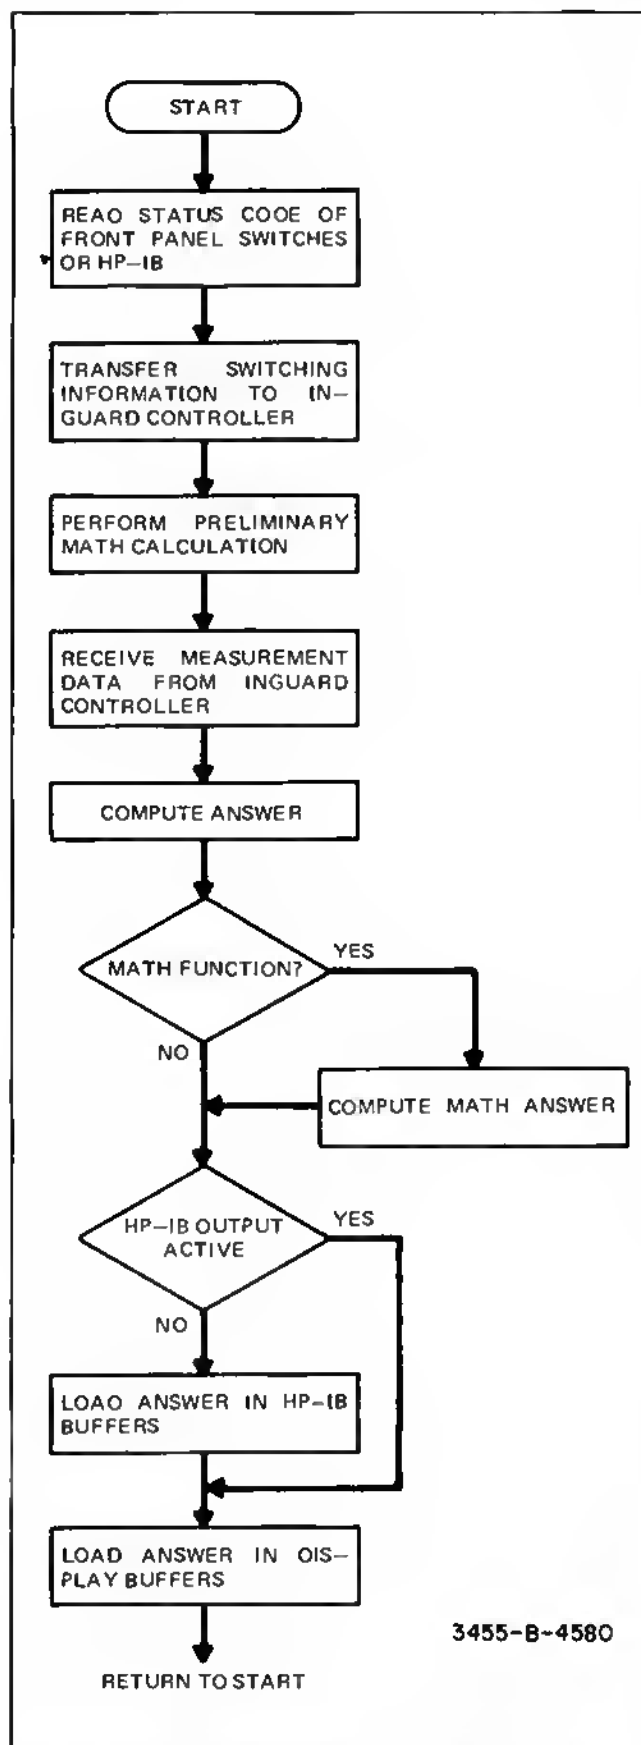

Figure 8-37. Simplified Main Controller Flowchart.
communication between the front panel, HP-IB interface, display and inguard section of the multimeter and to perform mathematical calculations to correct measurement data and provide measurement scaling or percent error readings. The following is an explanation of the operations performed by the main controller as illustrated in Figure 8-37.
- c. During the time the inguard controller is settling the switches and making the required measurements, the main controller computes the constants used to correct the measurement data. This step is shown in Figure 8-37 as "perform preliminary math calculations" and involves combining the offset error and full scale error readings, relevant to the measurement being made, into two constants.